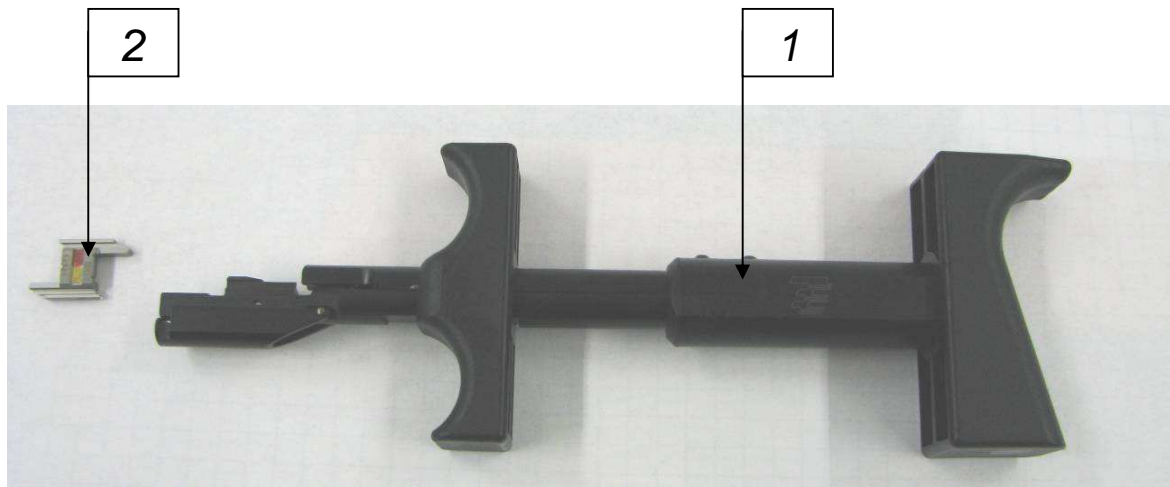

Figure 1
The Termi-Point service tool (Fig.1) consists of a basic tool (1) and a stripping insert/ Mandrel (2). There is a service tool for Termi-Point standard with the TE P/N 655498-1 and a service tool for Termi-Point Maxi with the TE P/N 654632-1. The tool shown in the photos is a service tool for Termi-Point standard. Both types are identically constructed.